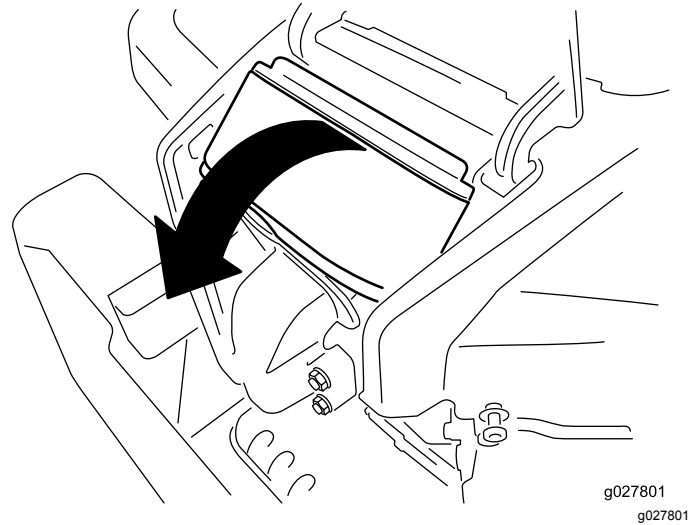

Figure 31
4. Lift the cover and rotate the air-cleaner assembly out of the engine (Figure 31).